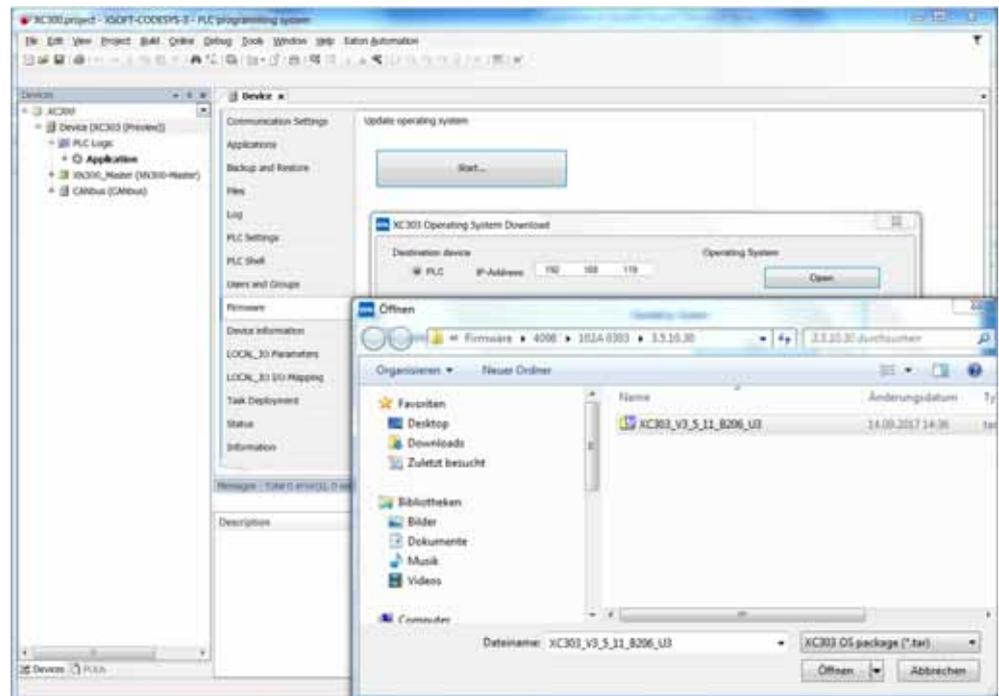

Figure 35: "FTP installation" option
The update process when using removable media or a local directory (→ figure 35, page 60) is similar to that for FTP installation.
- ▶ Select „Removeable Drive“ in the window „XC303 OperatingSystem Download“ (→ figure 35).